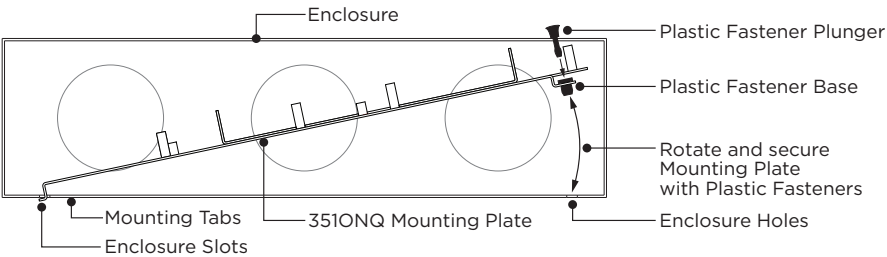

Figure 2: Insert the 351ONQ Mounting Plate
3. Insert the tabs into the slots by angling the mounting plate away from the back of the enclosure. See Figure 2.